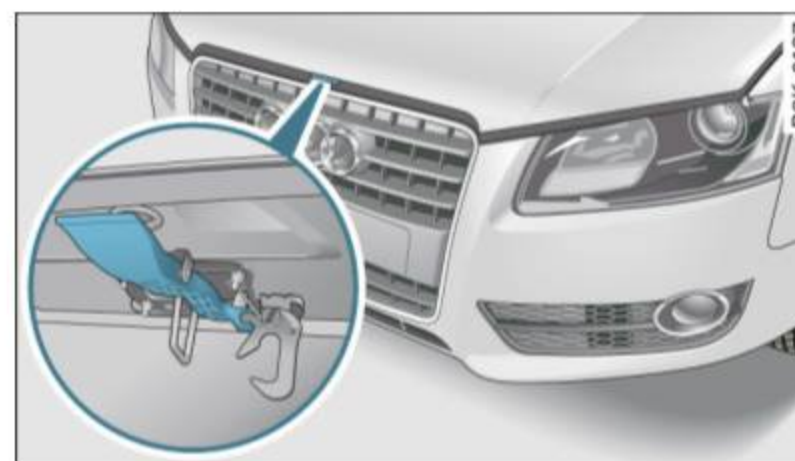

Fig. 200 Release lever under the engine hood
- Pull up on the release under the hood ⇒ fig. 200. This releases the catch.